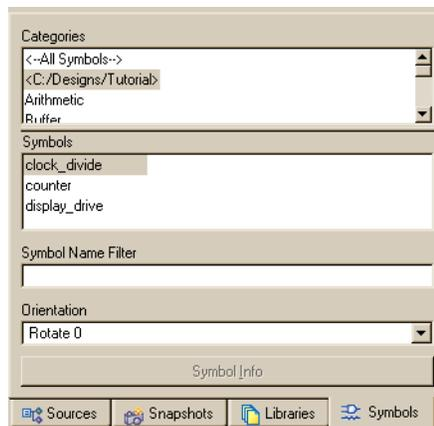

Figure 4-22: Symbols Tab
- The symbol libraries can be found under the **Symbol** tab on the right hand tab in the **Sources** window. You will see that there is a category showing the path to your project directory. If you click this category, you will see three symbols listed below. These are the three symbols that you have just created, as shown in Figure 4-22.